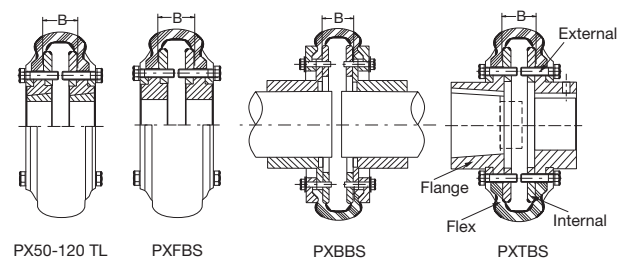

Figure 2 - Three-Piece Flange Styles
4. Referring to Figure 2 and Table 1, observe the "B" dimension for the coupling size being installed. Mount and position the flanges on the shafts so that dimension "B" is achieved when the shafts are in their final position.